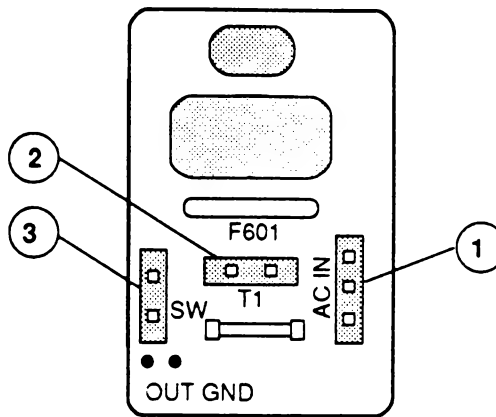

**FIGURE 18**
- AC IN (Figure 18, #1)
- T1 (Figure 18, #2)
- SW (Figure 18, #3)